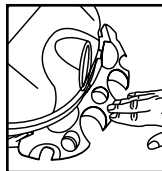

FIGURE 12
12. Press down on center of tool holder until tab latches on bottom of lid. **FIGURE 12.**